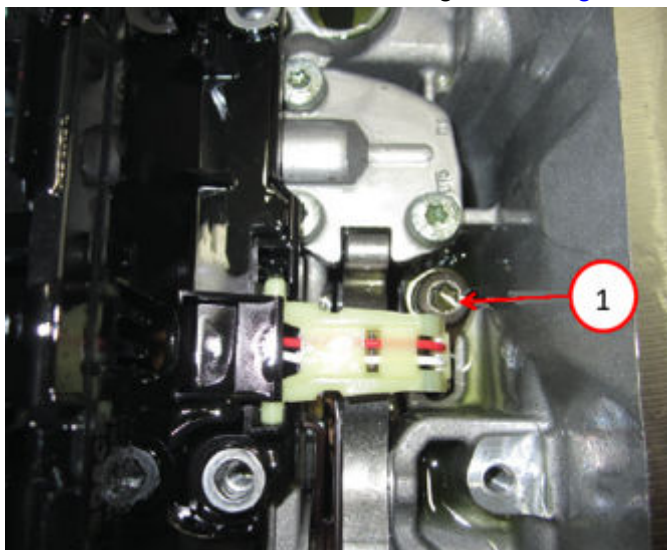

Fig. 47
71. Install the output speed sensor and the bolt in the case and tighten to Fig. 47.